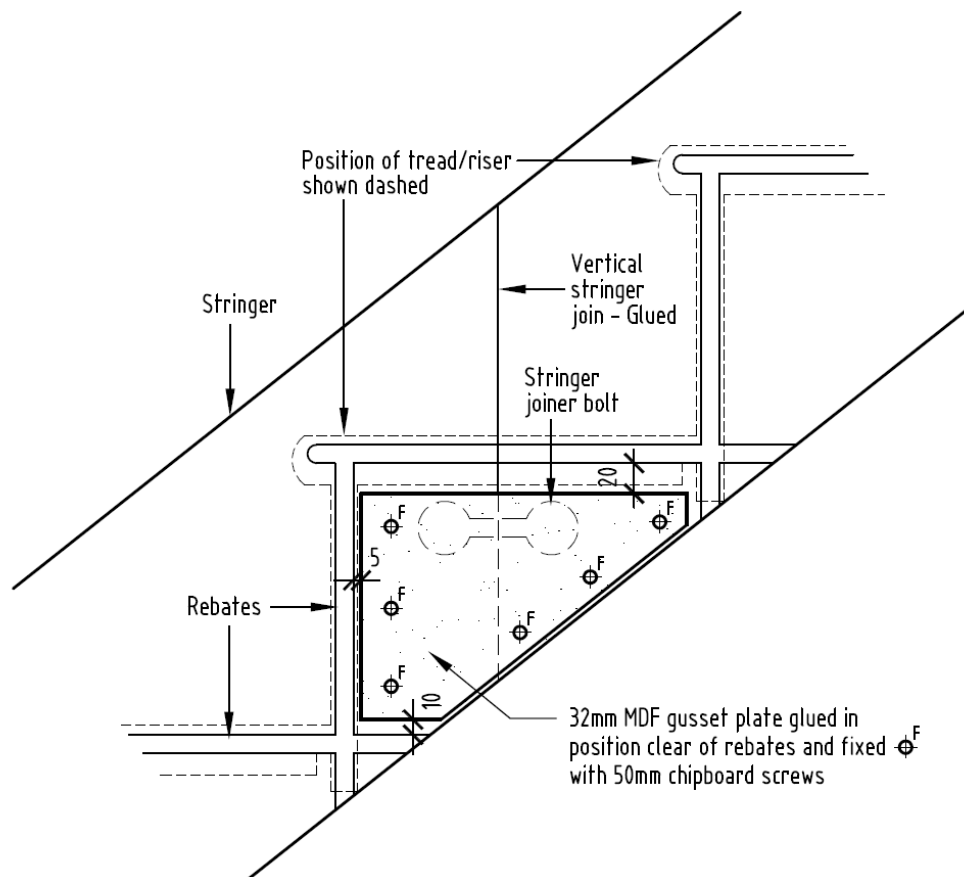

Figure 1
- Step 4:** Glue and screw the gusset into place (Refer Figure 1)